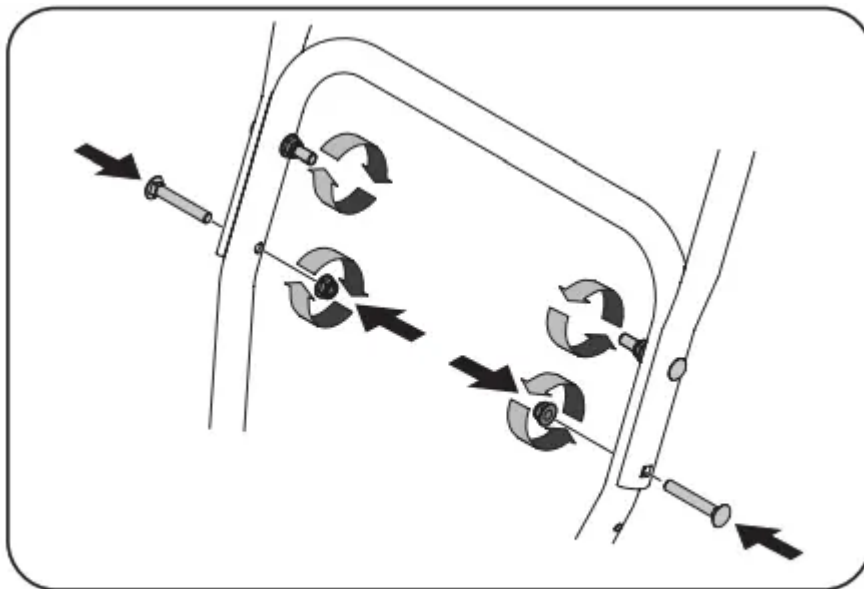
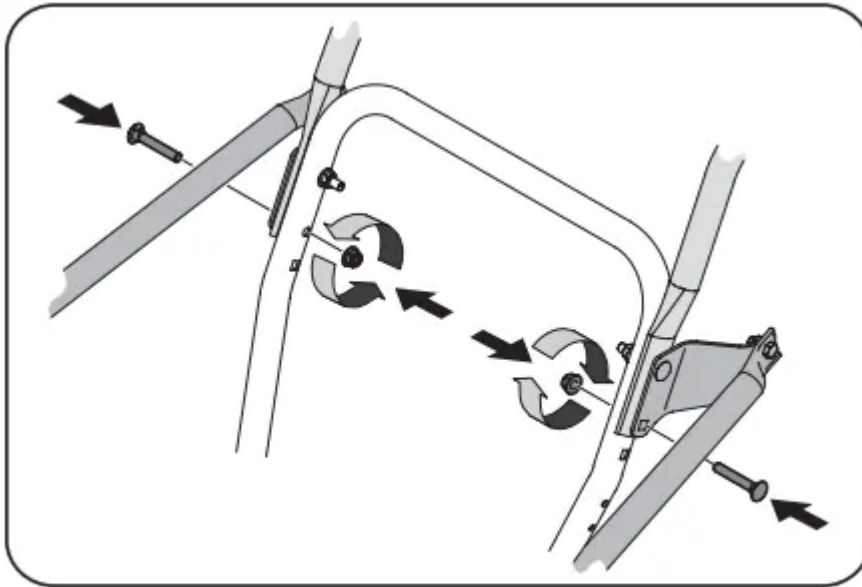

Figure 6
Figure 7
6. Attach the two carriage screws and lock nuts removed in Step 2. Finish securing the handle by tightening the top two lock nuts loosened in Step 2. See Figure 6 or Figure 7 for units with side supports.